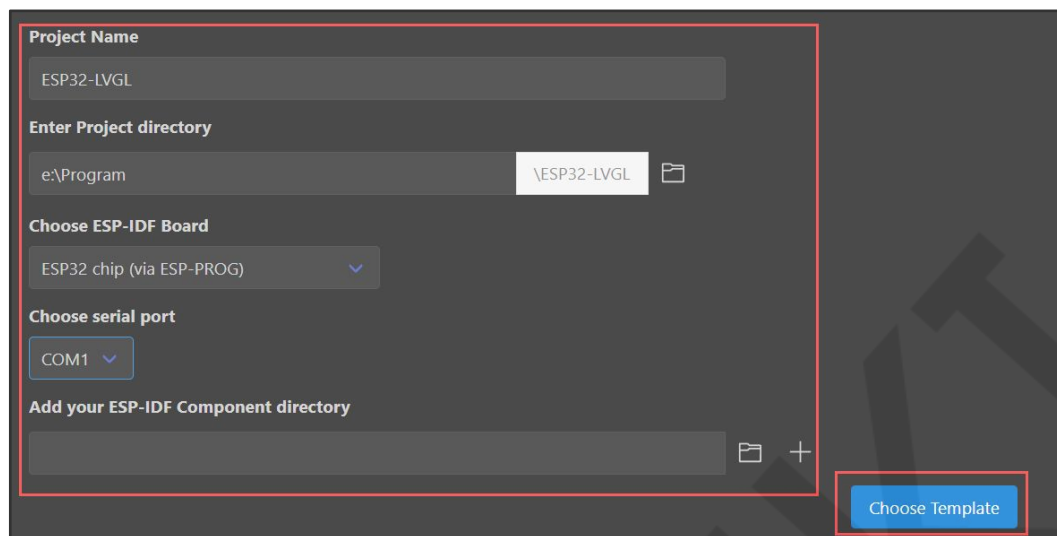

Figure 1.4 Project Configuration Example
D. After the project engineering configuration is completed, click the **"Choose Template"** button shown in Figure 1.4. In the pop-up interface, you can see many project engineering templates, which can be selected according to the actual project requirements. Choose the official basic template here. The specific operation is as follows: first, select **"ESP-IDF"** from the template category drop-down menu, then select **"sample_project"** in get started, and finally click the **"Create project using template sample_daject"** option, as shown in the following figure: